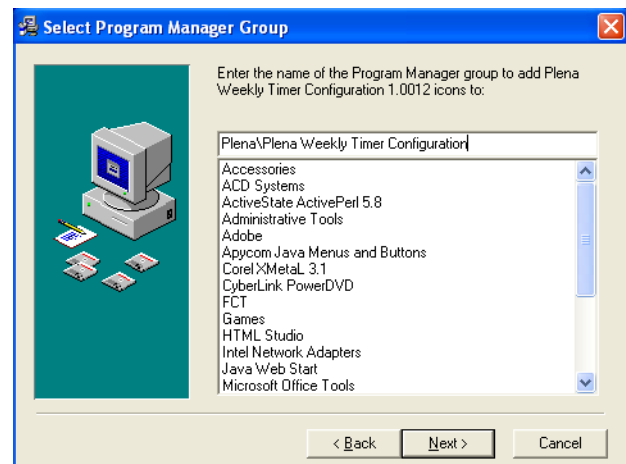

figure 8.3: Select program manager group
- 3 Choose the Destination Location Folder, and then click [Next]. A window similar to the one in figure 8.3 will appear.